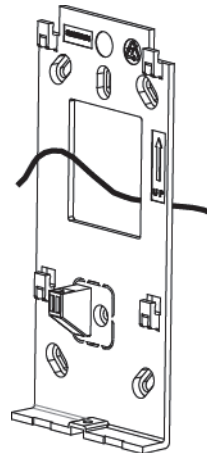

Figure 2
2. Insert the wires through the hole in the mounting bracket (see Figure 2).